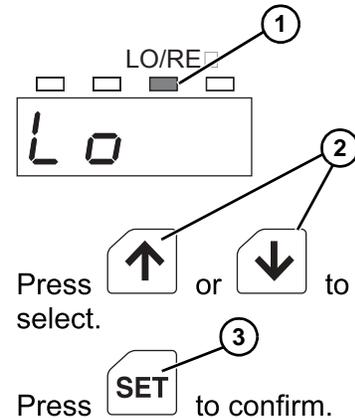

Figure 41
- a. Press MODE to switch to the digital operator/external input signal setting mode. The LO/RE LED (Figure 41, item 1) will illuminate.
- b. Press up or down (Figure 41, item 2) select to select “RE” (remote operator).
- c. Press SET (Figure 41, item 3) to confirm the selection. The display will blink.